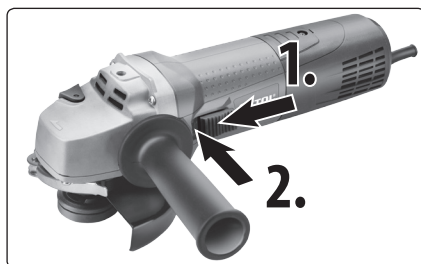

Fig. 14, starting (step 1); locking the trigger switch in the „on“ position (step 2)
- The majority of the smaller angle grinder models has the trigger switch on the side of the body or on the top part of the body, and to start the angle grinder it is necessary to slide the trigger switch forward with the thumb, see fig. 14, step 1. To turn off the grinder, simply release the trigger switch.
- On these angle grinder models, it is usually possible to lock the trigger switch in the „on“ position in order to enable longer term operation of the angle grinder by pressing down the front part of the trigger switch towards the body of the angle grinder as shown in fig. 14, step 2. To unlock the trigger switch from the „on“ position, it is necessary to press the bottom part and then to release it, which will turn off the angle grinder. Prior to starting the angle grinder, test the locking and unlocking function with the el. power supply turned off in order to be able to immediately turn off the angle grinder in the event of a dangerous situation arising.